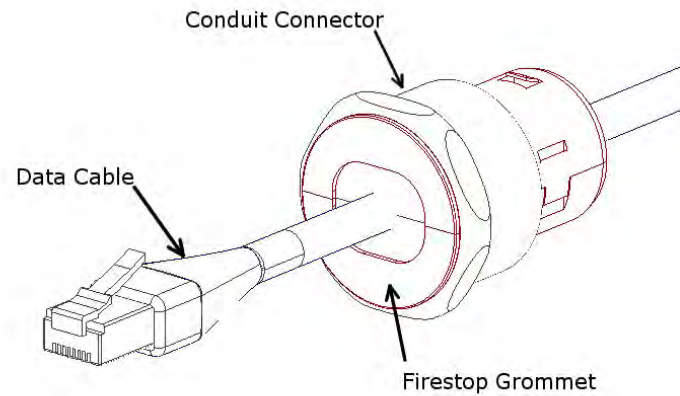

Figure 6 – Firestop Grommet.
Step 7 – Once the assembly has been installed in the wall/ceiling or ceiling and secured using wall/ceiling bridges, run the Ethernet cable into the enclosure through the conduit connector located on the side of the *access point* enclosure and attach to the access point prior to installing. Clamp the firestop grommet around the cable far enough to allow attachment to the access point (8" - 10"). Insert the grommet into the conduit fitting (Figure 6).